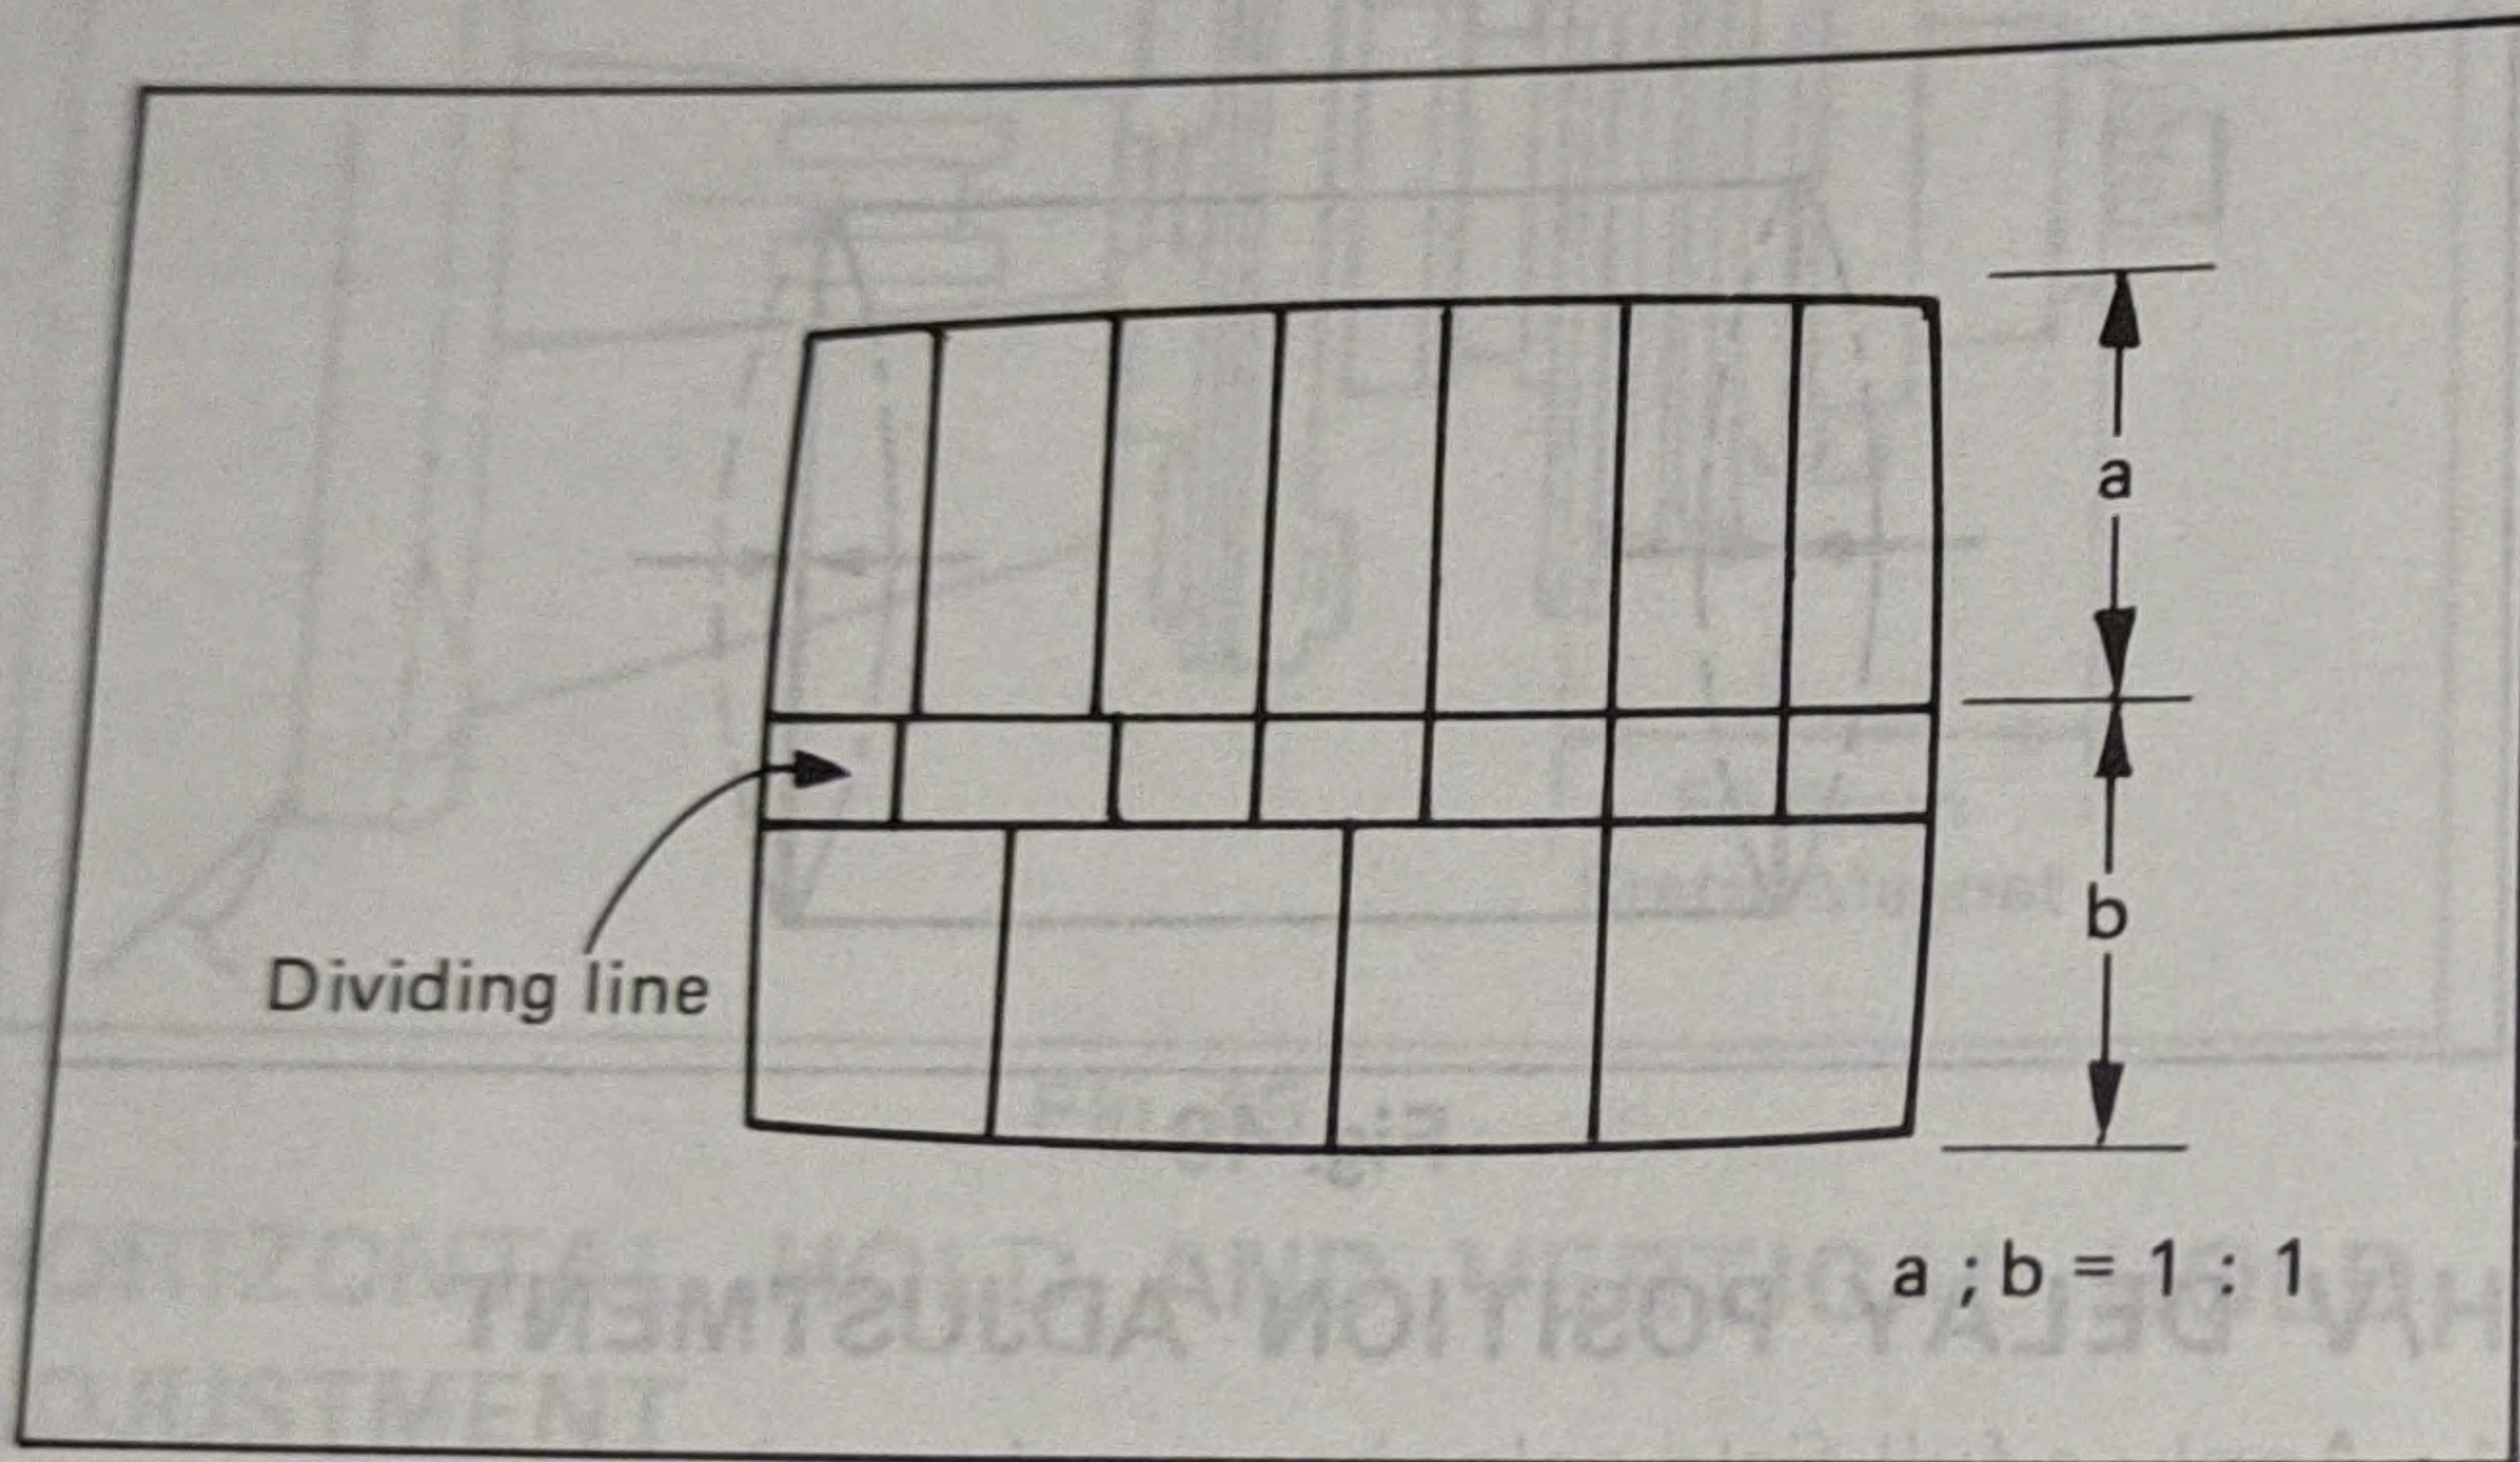

Fig. 51
8. Adjust R5991 (A/B split position) so that the dividing line on the screen becomes a half and half as shown in Fig. 51.